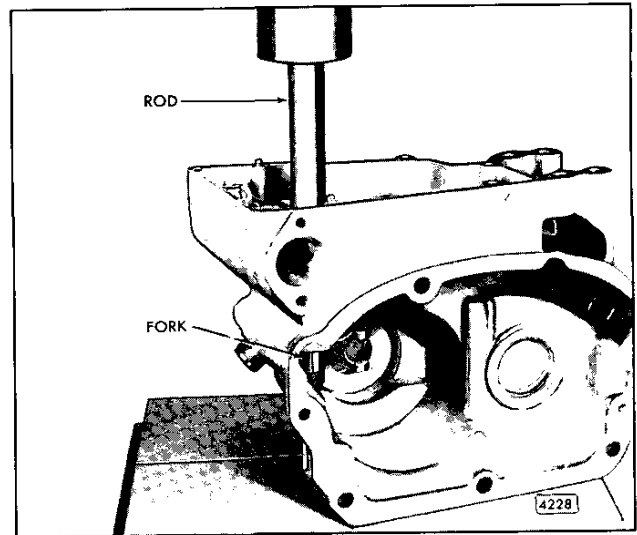

Fig. 11 - Installing Governor Operating Fork
4. Align the flat surfaces and start the operating shaft fork on the shaft with the finished cam surfaces of the fork facing toward the rear of the governor. Insert the threaded end of tool J 21995-2 through the cup plug hole in the housing. Then thread the knurled nut J 21995-1 on the end of the tool so the fork rests on the nut. Use a rod of suitable length and diameter and press the shaft into the fork until the fork is flush with the end of the shaft (Fig. 11). Remove the tools.